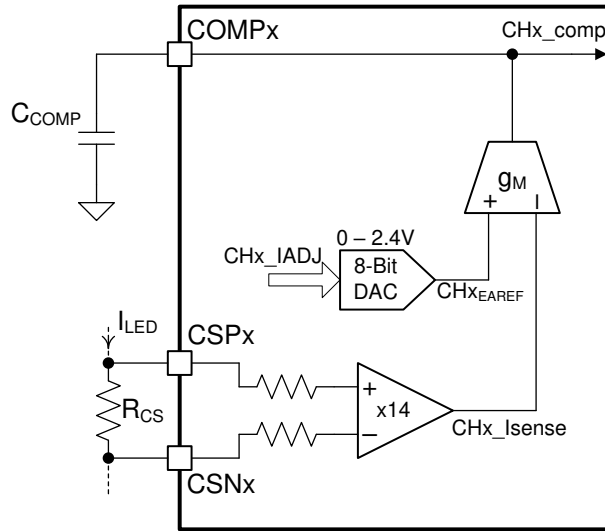
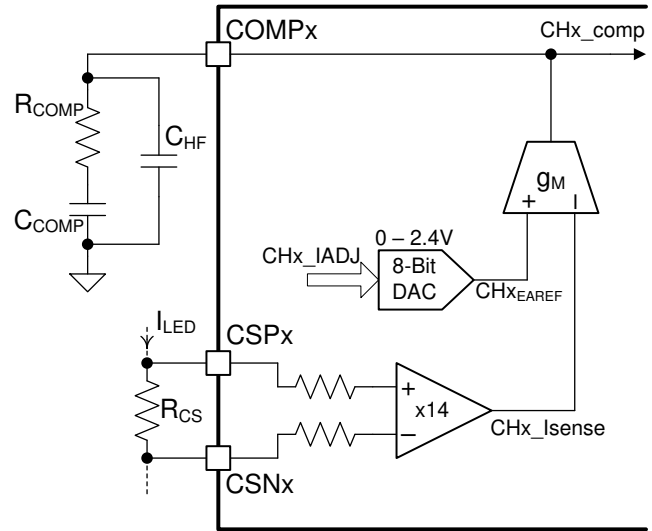

Figure 8-4. Integral Compensator
Figure 8-5. Proportional Integral Compensator
The feedback transfer function includes the current sense resistor and the loop compensation of the transconductance amplifier. A compensation network at the output of the error amplifier is used to configure loop gain and phase characteristics. A simple capacitor, C_{COMP} , from COMPx to GND (as shown in Figure 8-4) provides integral compensation and creates a pole at the origin. Alternatively, a network of R_{COMP} , C_{COMP} , and C_{HF} , shown in Figure 8-5, can be used to implement Proportional-Integral (PI) compensation to create a pole at the origin, a low-frequency zero, and a high-frequency pole.